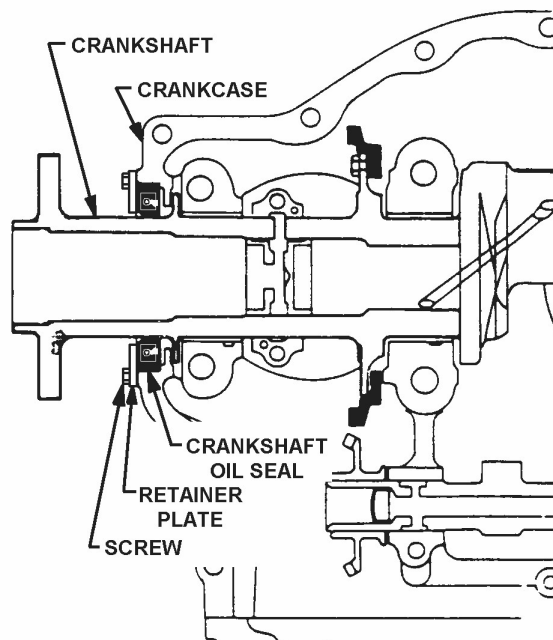

Figure 10-42. Retainer Plate and Screws on Front of Crankcase
6. Remove the screws and the retainer plates (Figure 10-42) from the crankcase.